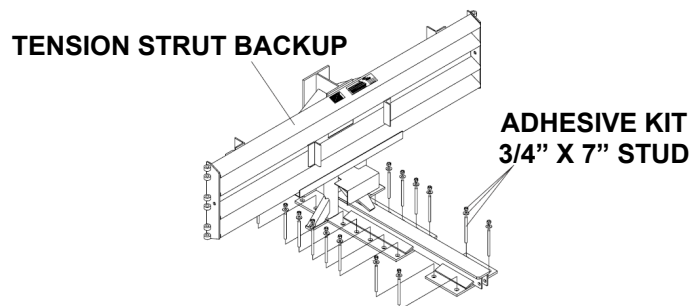
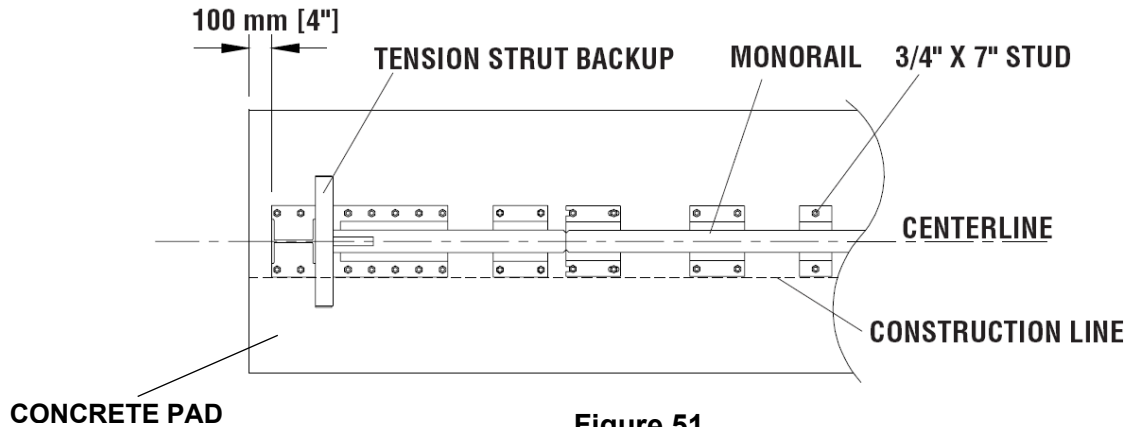

Figure 50
Figure 51
Refer to Figure 50 (Tension Strut Backup Assembly), Figure 51 (Monorail Assembly) and the drawing package for more information.
A. For Tension Strut Backup Assembly (Figure 50)
B. For Monorail Assembly (Figures 51)